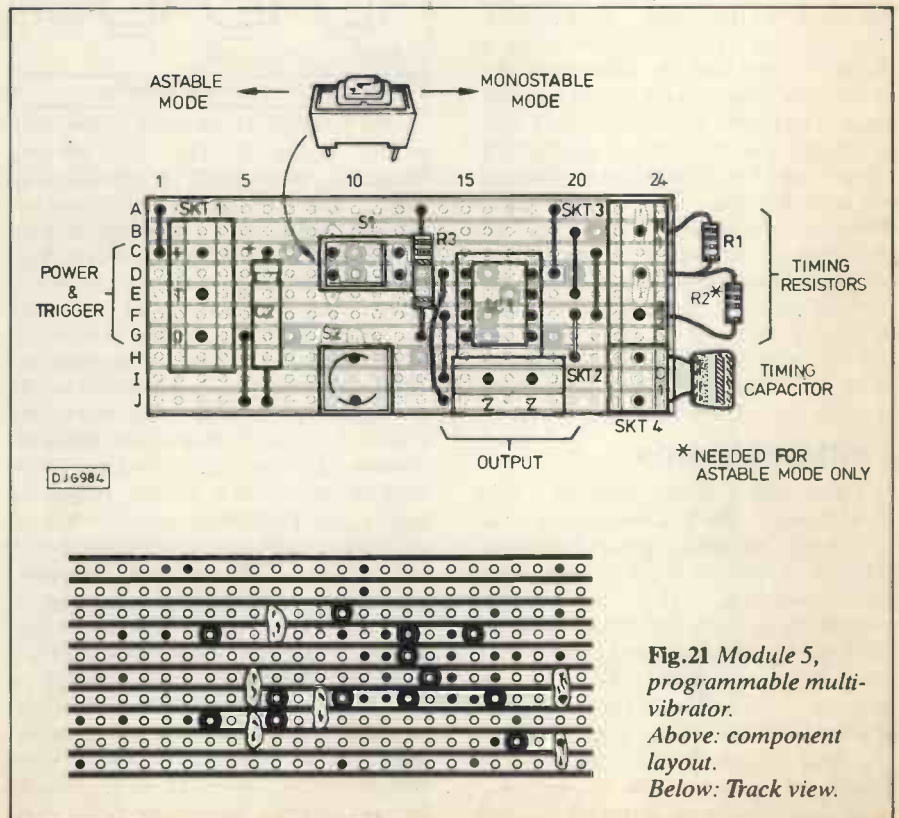

**Fig.20** Setting the mark-space ratio.
1. Fig. 20 shows the circuit of a Schmitt trigger astable that has a mark-space ratio of 1/23. Explain how it works.